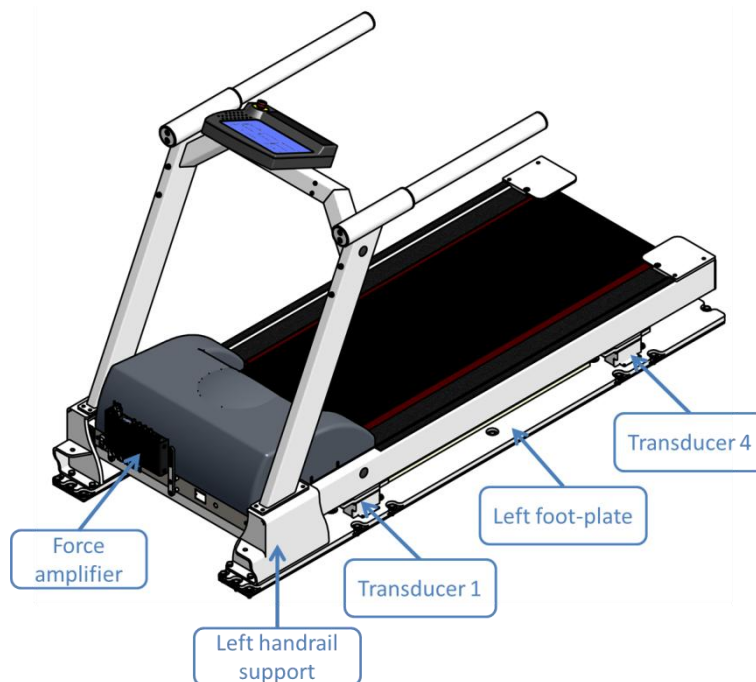

Figure 5. gateway-3D instrumentation components.
- 1) The left and right treadmill supports that each includes two force transducers and a handrail-support fixed on a foot-plate anchored to the floor (Figure 5).
The force amplifier is composed of a powder coated stainless steel enclosure with connectors on the top and bottom panels. The force amplifier is mounted on two brackets located in front of the treadmill motor compartment (see Figure 5). Several versions of the gateway-3D amplifier are supported (versions C, D and E). The amplifier interface connectors are described in next sections. Standard PVC or PUR jacket cables are used for interconnection between the amplifier and parts of the gateway-3D instrumentation.